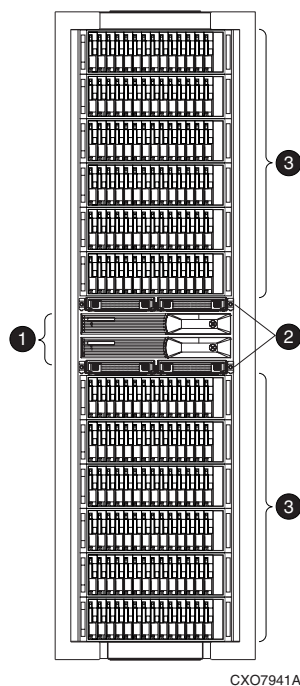

Figure 1 Storage system hardware components
The basic physical components are shown in Figure 1. The disk drives are installed in the disk enclosures, which connect to Fibre Channel (FC) loop switches. The controller pair also connects to the FC loop switches.
The hardware components shown in Figure 1 are discussed in the following sections and in Storage System Hardware Components.